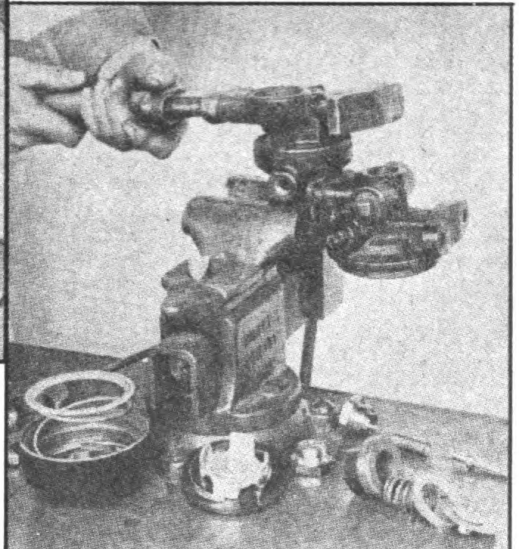

FIGURE 41. REMOVING
1. Remove diaphragm cover body (Figure 41).